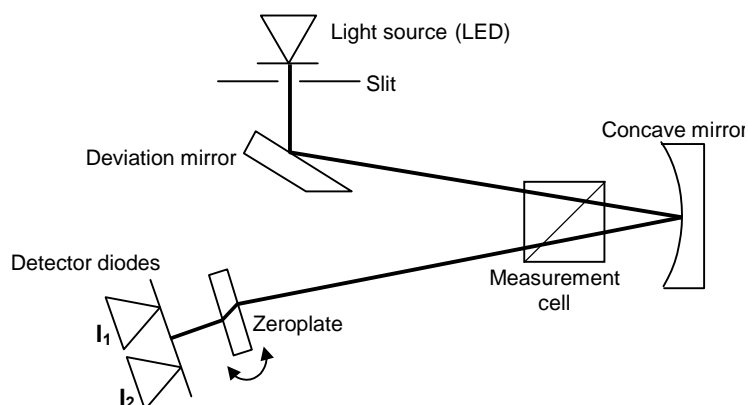

Fig. 1 Light Path in the RI Detectors
A light beam emitted from a LED crosses the sample and the reference cell of the RI Detector twice, see Fig. 1. When both cells contain pure solvent, the system is calibrated to zero by means of a parallel zeroplate that positions the beam on the two detector diodes 1 and 2 in such a manner that the measured light intensities (I_1 and I_2) of the two diodes are virtually identical. When the sample cell contains a solution with a different refractive index, the light beam is geometrically proportionally deflected depending on the relative change of the refractive index (according to Snellius' refraction law).
The light beam reaches the two detector diodes 1 and 2 (see Fig. 1 on page 5) which deliver the intensity values during measurement, depending on the light beam's deflection. The results of the difference $I_1 - I_2$ and the sum $I_1 + I_2$ are calculated continuously and indicated in the menu SIGNAL.
- Pressing briefly in the menu SIGNAL will activate the „AUTOZERO function“, which sets the measurement signal and the integrator output to zero. This is performed by an appropriate selection of a new constant factor „a“ according to formula (1) on page 6.
- Extended pressing (> 3 s) in menu SIGNAL will activate a repositioning of the zeroplate (Fig. 1 on page 5). During this operation the message zeroplate moving is indicated.